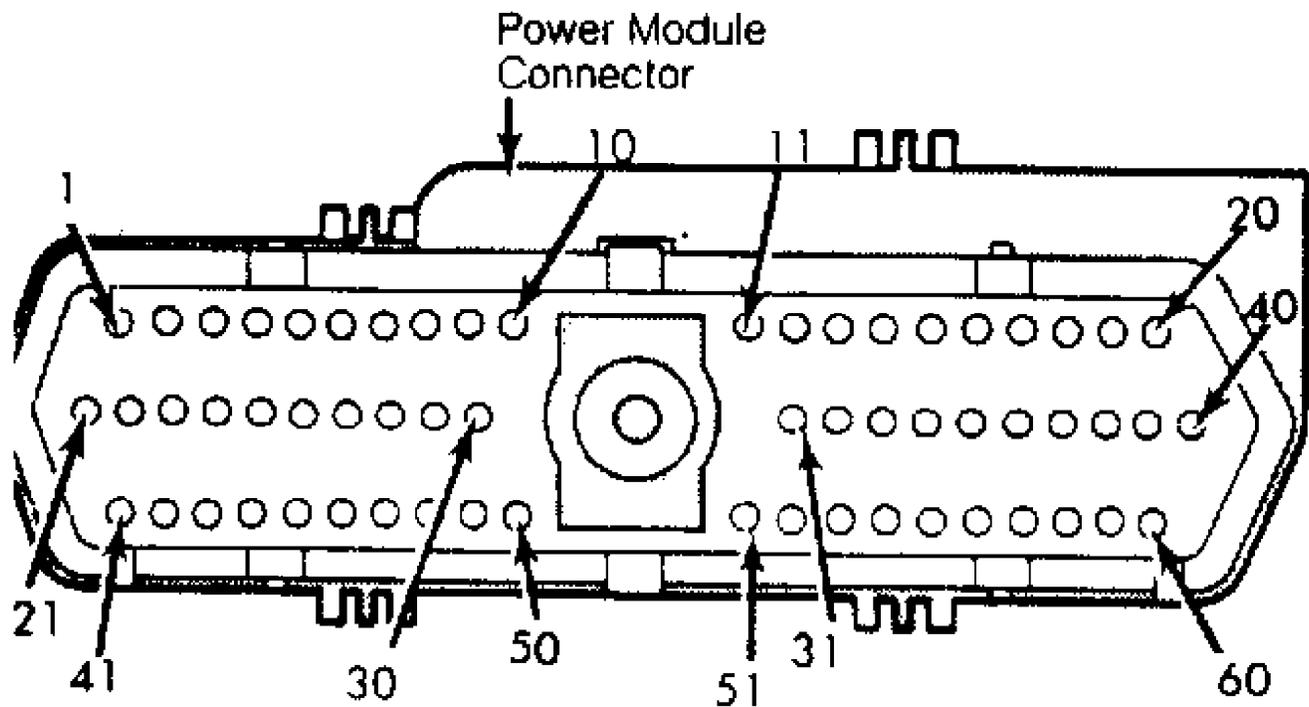

Fig. 8: Power Module 60-Way Connector
2) Disconnect SMEC 60-way connector. See Fig. 8. At alternator trace one of field terminal wires back to Black 8-way